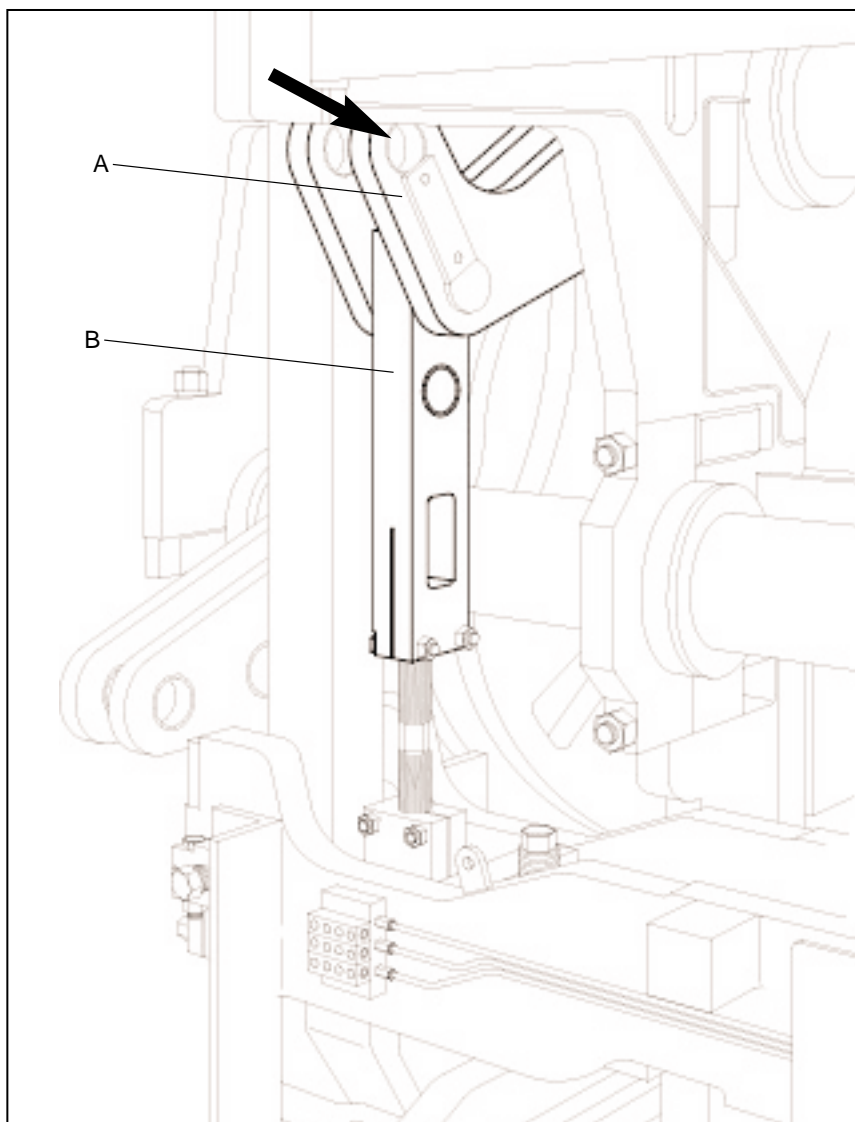

Figure 18.21 STRIPPER HEAD SHAFT AND LINKS.
- b. Stripper head shaft (A) - position pins in inside holes (short stroke) (see figure 18.21).
- c. Stripper head links (B) - position pins in top holes (see figure 18.21). Adjust links to obtain approximately **70mm [2.75"]** between link ends.